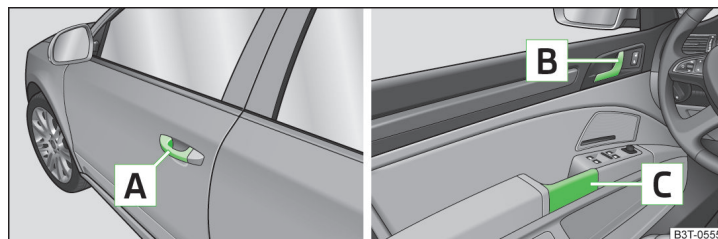

Fig. 35 Door handle/door opening lever:
- Unlock the vehicle and pull the door handle [A] » Fig. 35 on the door you wish to open.